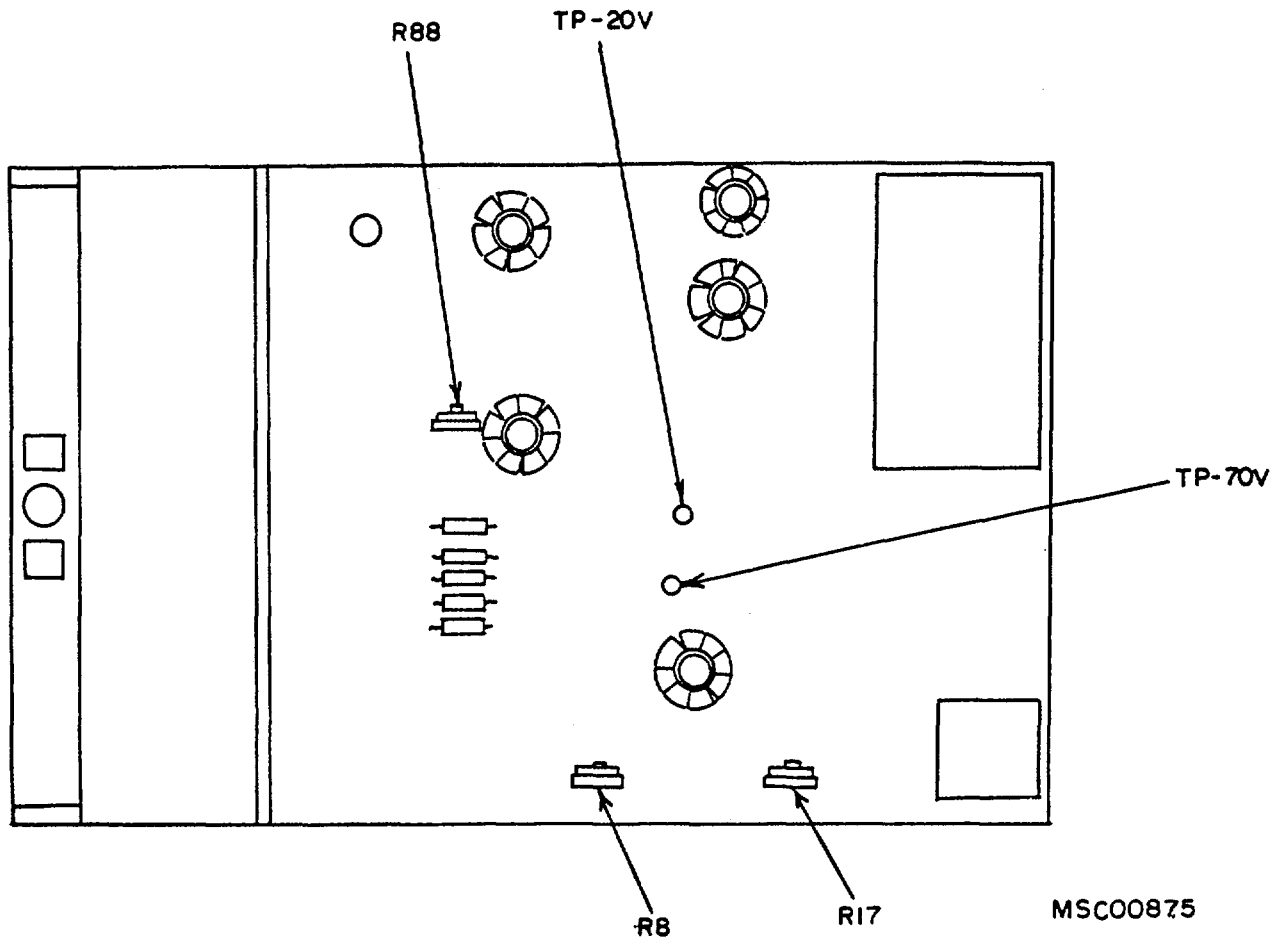

Figure 1. Hewlett-Packard, Model 211B - bottom view.
(2) Adjust **AMPLITUDE** control fully cw. If oscilloscope does not display a negative pulse with at least 60 V, perform b below.
(3) Adjust **AMPLITUDE** control for a 60-V indication on oscilloscope.
(4) Measure rise and falltime using standard measurement technique. Rise and falltime as indicated on oscilloscope will be less than 140 ns.
b. Adjustments. Adjust R88 (fig. 1) for greatest amplitude without distortion on falltime (R).
(1) Connect digital voltmeter A2 to TP-20V(fig.1) and chassis ground, using leads B3. Vary autotransformer A1 output between 105 and 125 v ac. If digital voltmeter does not indicate between -19.8 and -20.2 V dc, perform b(1).
(2) Adjust autotransformer output to 115 V ac.
(3) Connect digital voltmeter to TP- 70V (fig. 1) and chassis ground, using leads (B3). Vary autotransformer output between 105 and 125 V ac. If digital voltmeter does not indicate between -69.3 and -70.7 V dc, perform b(2) below.
(4) Adjust autotransformer output to 115 V ac.
(1) Adjust autotransformer output to 115 V ac. Adjust R8 (fig. 1) for a -200-V dc indication on digital voltmeter (R).
(2) Repeat a(1) above.
(3) Adjust autotransformer output to 115 V ac. Adjust R17 (fig. 1) for a -70.0-V dc indication on digital voltmeter (R).
(4) Repeat a(3) above.